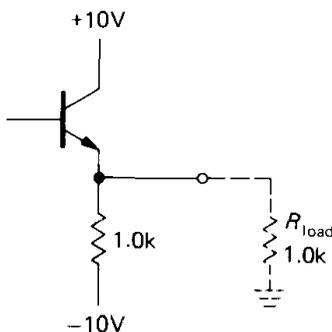
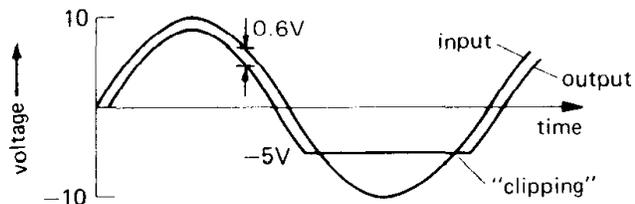

Figure 2.8. An npn emitter follower can source plenty of current through the transistor, but can sink limited current only through its emitter resistor.
Figure 2.9. Illustrating the asymmetrical current drive capability of the npn emitter follower.
1. Notice (Section 2.01, rule 4) that in an emitter follower the npn transistor can only "source" current. For instance, in the loaded circuit shown in Figure 2.8 the output can swing to within a transistor saturation voltage drop of  $V_{CC}$  (about +9.9V), but it cannot go more negative than -5 volts. That is because on the extreme negative swing, the transistor can do no more than turn off, which it does at -4.4 volts input (-5V output). Further negative swing at the input results in backbiasing of the base-emitter junction, but no further change in output. The output, for a 10 volt amplitude sine-wave input, looks as shown in Figure 2.9.